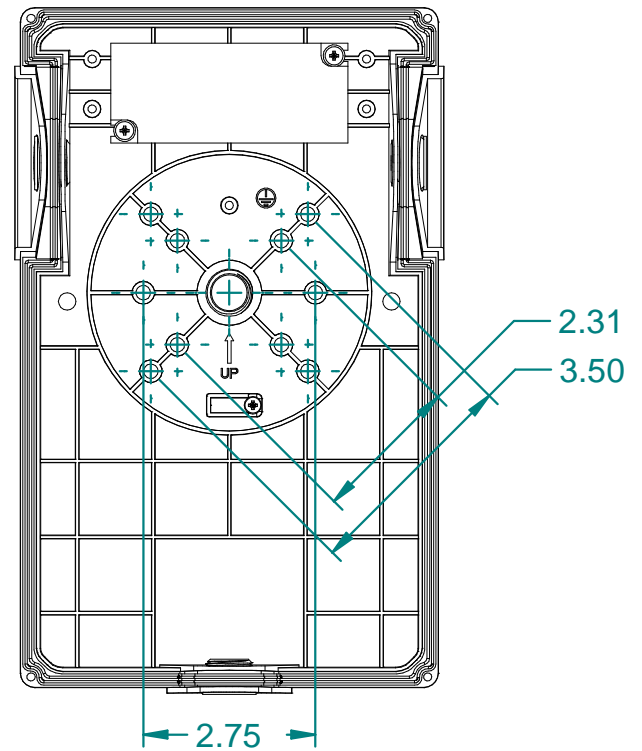

Fig. 5
- Also firmly grasp both sides of the orange connector and gently pull to disconnect. Now the front cover assembly can be placed aside while mounting the backplate shown in Fig 5.
- (See Fig. 5) Only drill the cast pattern that matches your junction box. (Junction box and junction box screws provided by others).